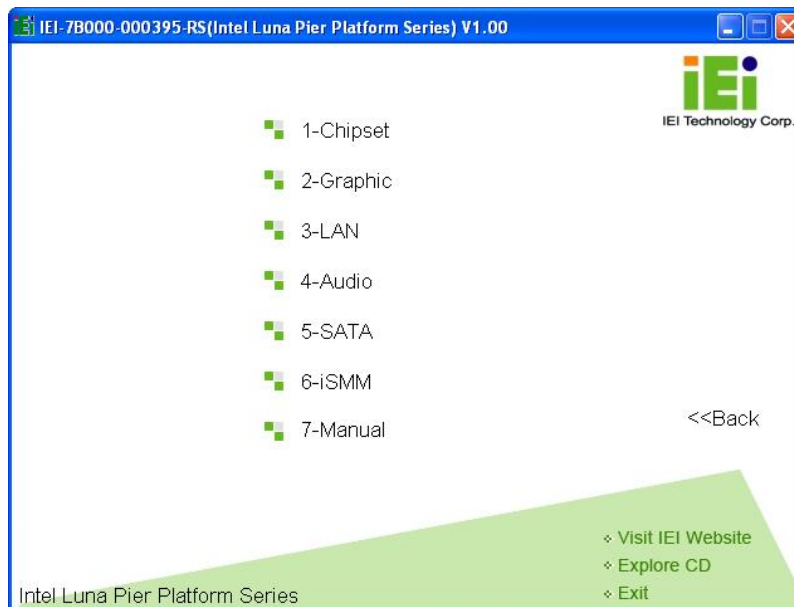

Figure 4-16: Available Drivers
Step 4: A new screen with a list of available drivers appears (Figure 4-16).